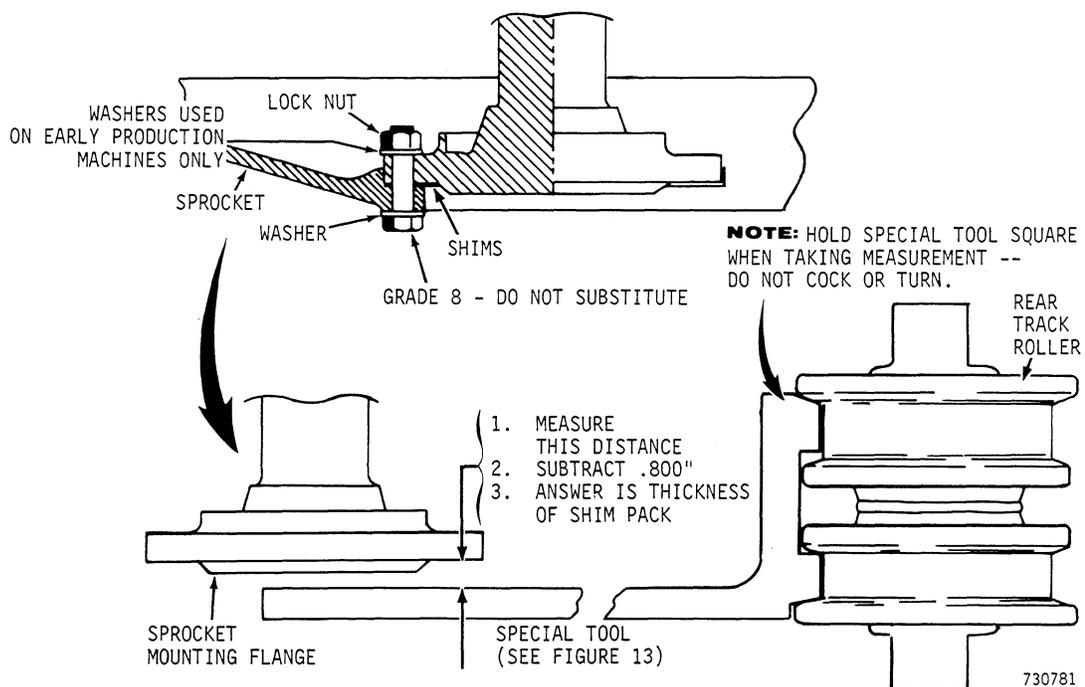

Figure 62 - Sprocket Installation
with the track rollers by shimming between the sprocket and sprocket mounting flange, Figure 62.
3. Determine the thickness of the shim pack as instructed in Figure 62. Obtain the required number of shims.
4. Mount the sprocket to the sprocket mounting flange using shims and hardware shown in Figure 62. Torque bolts to 290-300 foot-pounds.